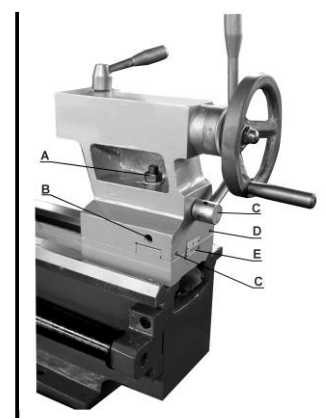

Fig. 17
Work to a side angle it can be turned by off-setting the tailstock, the angle depends on the length of the workpiece. Loosen the nut (A. Fig. 17), handle (C) and two screws (D) then adjust the screw (A) to deflect the quill center line off-track from spindle center line, for getting the desired taper, please refer to the value in scale plate (E).